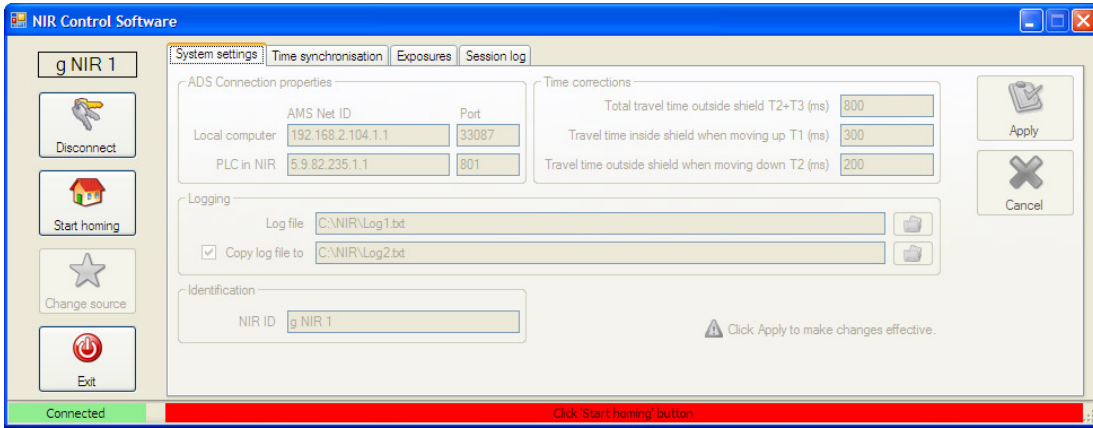

Figure 25: Ready to start the homing procedure.
7. Press the blue RESET switch to bring the device to the normal operation state. The motor controller will power-up (Figure 25), and the blue RESET indicator will go off.